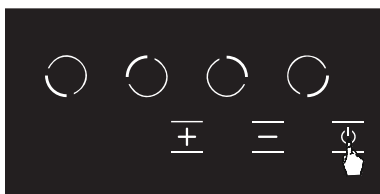

Figure 11
1. You may turn the stove off by pressing the **power** button. See Fig. 11)